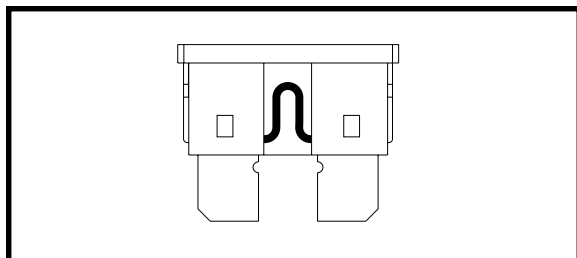

Figure 24. Working Fuse
2. Examine the fuse to be sure it is blown. **See figures 24 and 24A.**